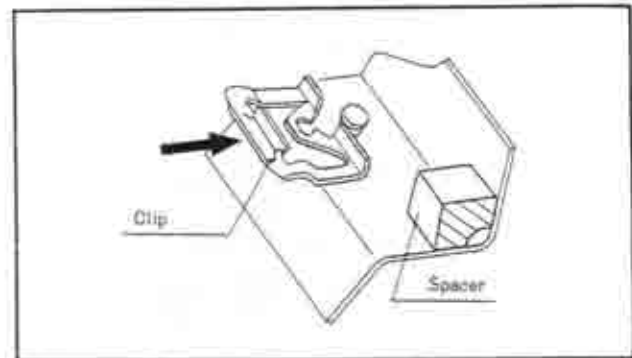

Fig. 14-12 Inserting of clip
5. Insert each clip to the clip insertion portion in the manner shown in Fig. 14-12. If any clip happens to be loose after it has been inserted, replace with a new clip.